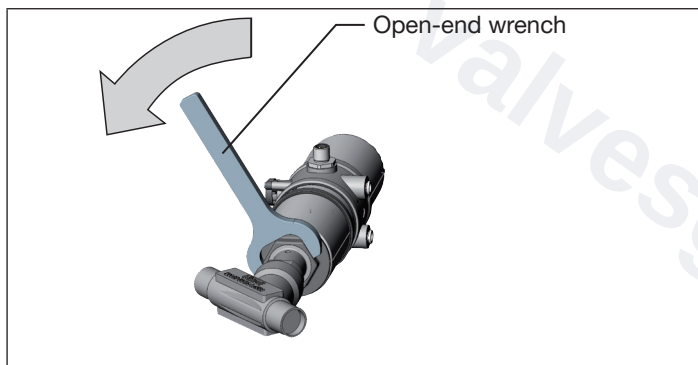

Fig. 23: Rotating with open-end wrench
- ▶ Only turn the actuator in the specified direction (see „Fig. 23“)